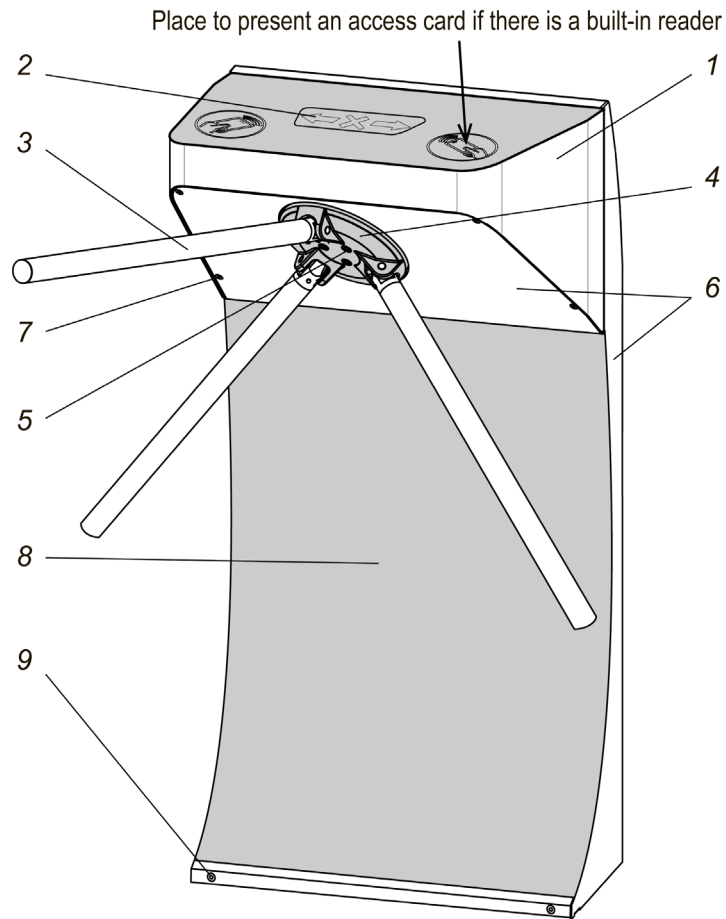

Figure 2. Turnstile overview
The inner side of the turnstile features brackets for mounting RFID-readers; upper part features pictograms indicating card presentation zone (see Fig. 2).
The design of the turnstile (Fig. 2). Numbers in brackets correspond to Fig. 2 and 3 of this Manual.
The housing (1) features LED indication block (2) to inform about the turnstile current status and the established operating mode (Fig. 2 and 4). The display has three pictographic indicators: